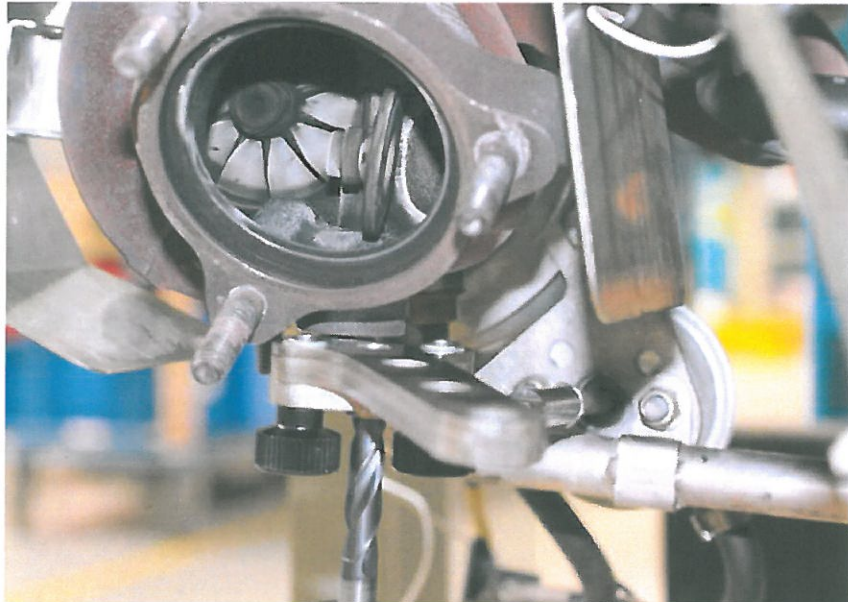

Fig. 5 Drilling the hole for the new pin
10. Drill the hole into the waste gate lever. Use the bushing of the counter support for guiding the drill bit. At the same time hold the counter support steady. See Figure 5.